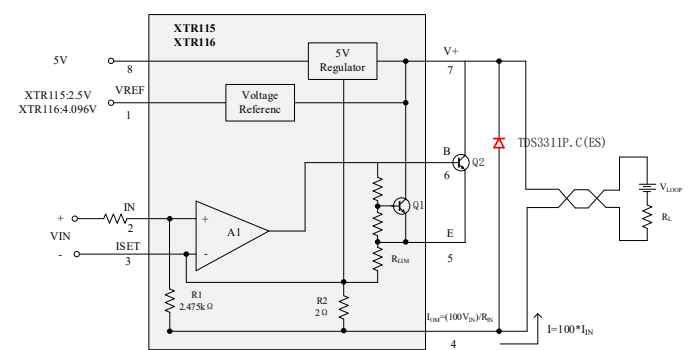

Fig. 4 Surge protection scheme for 4-20ma transmitters
The typical application of TDS3311P.C(ES) is the analog output module on the PLC in Fig.4. In this case, TDS3311P.C(ES) protects the 4-20mA transmitter of XTR115, which is a standard transmitter with a nominal voltage of 24V and a maximum input voltage of 40V. The industrial interface requires  $\pm 1\text{kV}$  surge test protection through a  $42\Omega$  coupling resistor and a  $0.5\mu\text{F}$  capacitor, which is equivalent to about 24A surge current. If there is no input protection, when lightning, coupling, ringing or other overvoltage conditions cause surge events, the input voltage will rise to hundreds of volts in a few microseconds, exceeding the absolute maximum input voltage, which will cause damage to the equipment. The ideal surge protection diode will maximize the operating voltage range and can be clamped within the safe voltage range of the system. The TDS technology introduced by Hunan Jingxin provides the best protection solution. TDS3311P.C(ES) is used to protect the device. During surge events, when the voltage rises to 38.7 V, the TDS3311P.C(ES) will be quickly triggered to instantaneously shunt the surge current to the ground. Because TDS3311P.C(ES) uses a built-in rated surge field